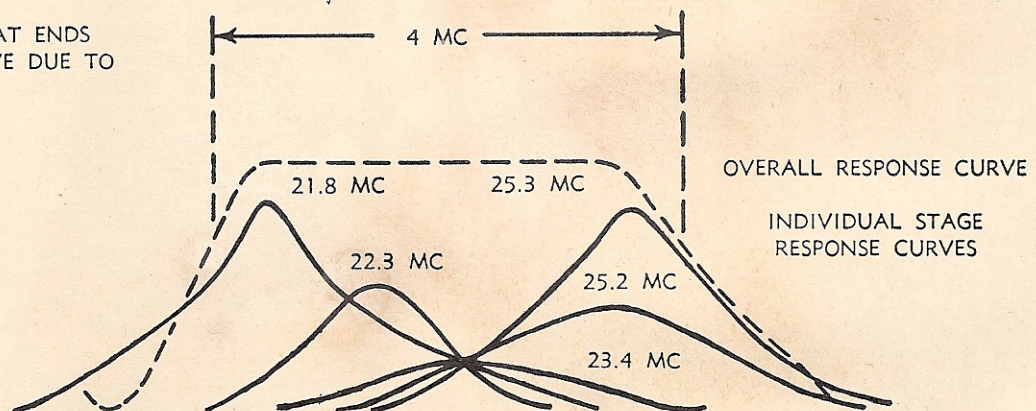

Figure 5—Stagger-tuned I F's Producing a 4 mc Band Pass
stage is peaked to a different frequency. Therefore, alignment may be accomplished by using the marker generator and vacuum tube voltmeter. In Fig. 5 the response curve of each stage is represented by the solid lines. (The frequencies indicated are representative of a receiver having an if carrier frequency of 25.75 mc.) The addition of the individual stage response curves, with respect to frequency and amplitude, will result in the overall characteristics curve. (See dotted line.)
- E. *Checking the Final Response Curve.* The resulting overall video if response, formed by the addition of the individual stage response curves may be viewed on the oscilloscope by connecting the combined output of the marker and sweep generator to the grid of the first video if amplifier. Next, the oscilloscope leads should be clipped across the diode load resistor of the video detector. Now, set the sweep generator to the if carrier frequency, and the sweep width control to give the desired frequency range. The resulting overall response curve should be similar in shape to the response curve illustrated in Fig. 5. (See dotted line.) Set the marker generator to the if carrier frequency and compare the response curve viewed on the oscilloscope with the example